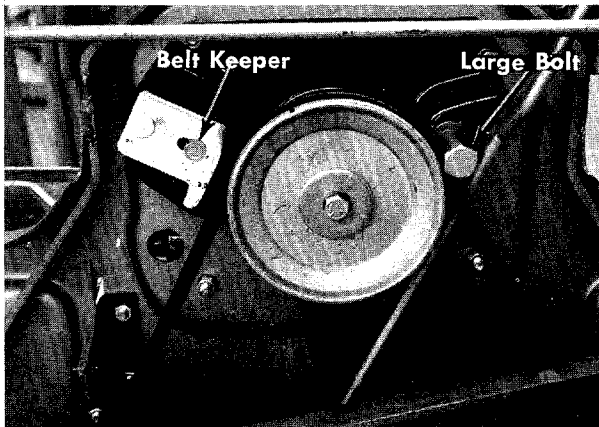

FIGURE 24. BELT KEEPER
- Step 2. Remove the belt keeper and large bolt on the engine pulley. See figure 24.